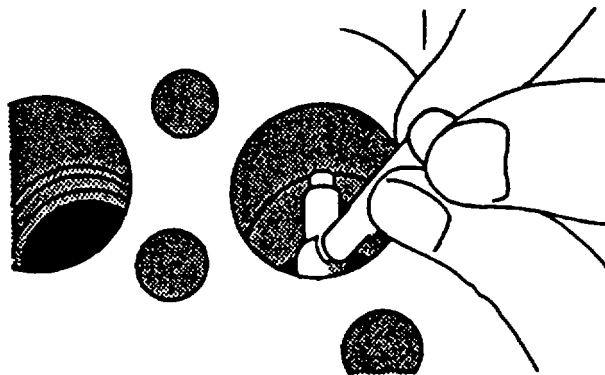

FIGURE 3-158. Measuring Cam Follower Bore Diameter
- (4) Measure cam follower bore diameter, refer to FIGURE 3-158. New diameter is 1.248 to 1.250 inches (31.70 to 31.75 mm). If diameter is more than specified, install a new engine block. Service bushings are not available. New cam follower diameter is 1.245 to 1.246 inches (31.62 to 31.65 mm). Maximum cam follower clearance is 0.005 inch (0.13 mm)